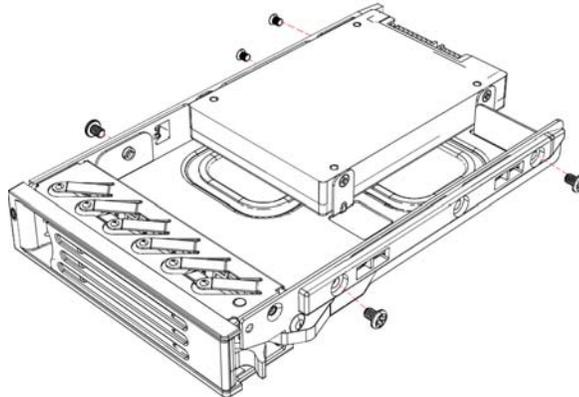

Figure 6. Securing Screws on the Rails
- Figure 6. Securing Screws on the Rails 4